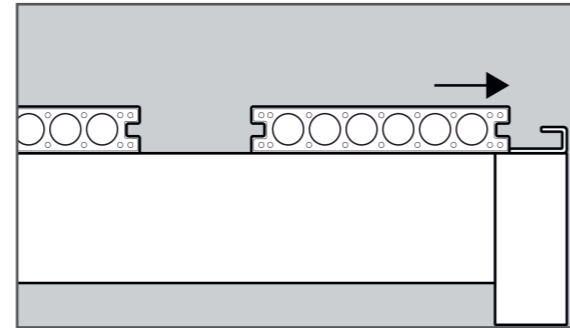

FIG. 8
- 6 Re-lay the last row of **boards** into the **starter clips**. (fig. 8)